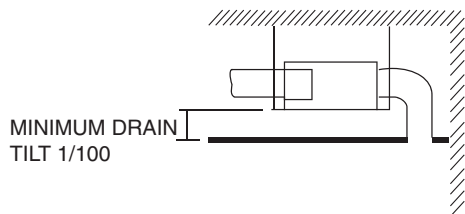

Fig. 8 — False Ceiling Installation
- There should be enough room within the false ceiling for installation and maintenance (see Fig. 8).